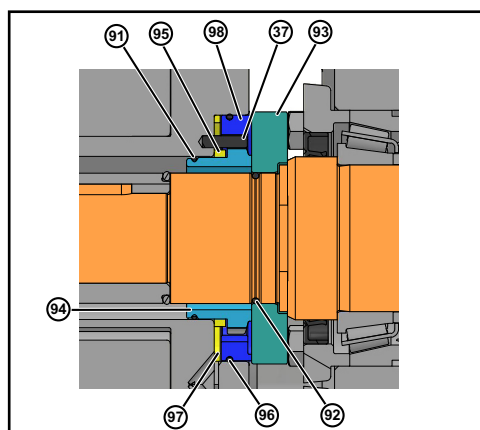

Figure 68 - Double Mechanical Seal
7. If a double mechanical seal is used, install the outer wave spring (Figure 68, item 97) in the body and the outer O-ring (item 96) in the outer seal groove (item 98). Place the outer seal in the pump body around the inner seal, aligning the notches in the outer seal with the stop pins in the body.